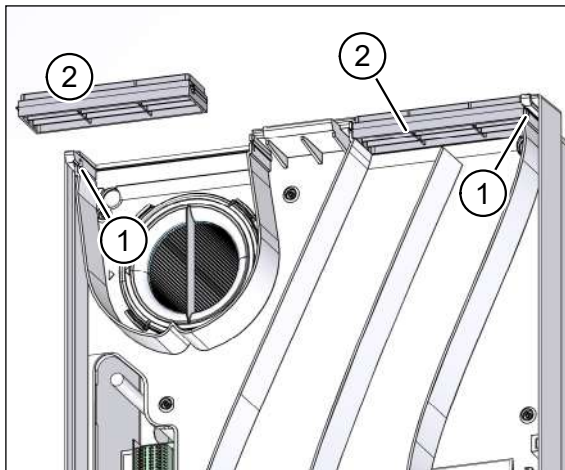

Fig. 40: Removing the air grilles
- ▶ Carefully push the two tabs (item 1 in Fig. 40) outwards and pull the two air grilles (item 2 in Fig. 40) forward and out.